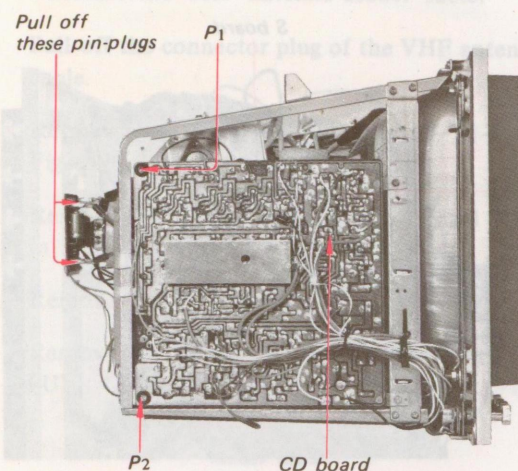

Fig. 2-19. CD-board removal
1. Remove the two screws labeled P1-2 in Fig. 2-19.